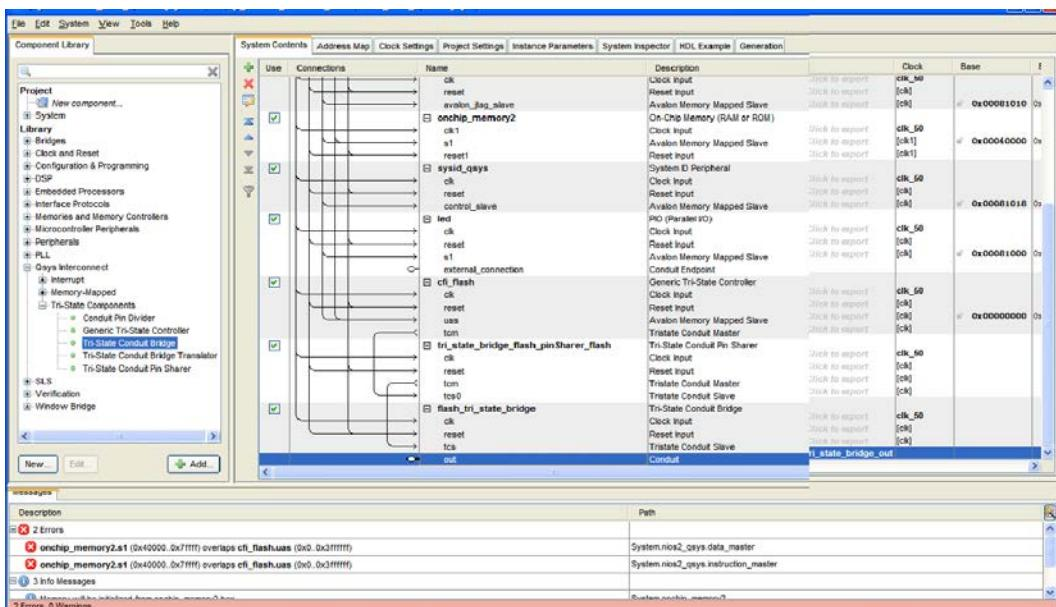

Figure 3-19 Export out and Rename
13. Export **out** and Rename it to **flash\_tri\_state\_bridge\_out** as shown in Figure 3-19.